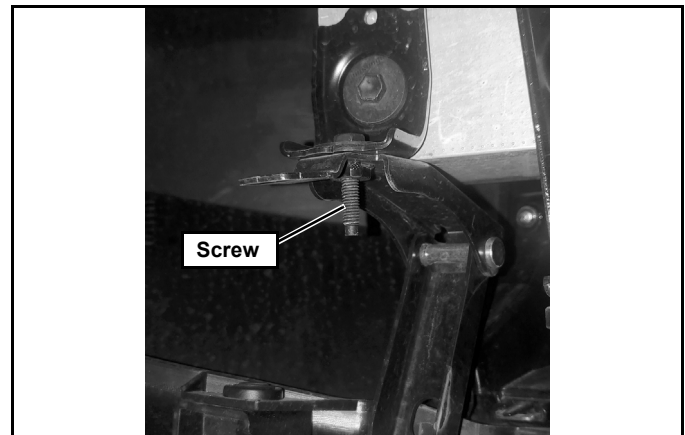

Figure 3
3. Find the hinge on each side allowing the spoiler to pivot and remove the screws holding the hinge to the bumper. (See Figure 3.) Remove the spoiler and retain the hardware for re-installation if the plow mount is removed.